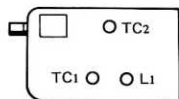
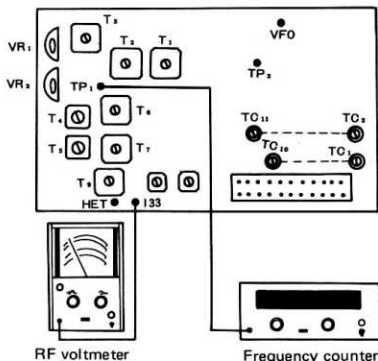

Fig. 14
Fig. 15
Refer to Fig. 14 and Table 4. The dial position "1000" (Table 4) is reached by turning the main dial clockwise and backing it away by one rotation from the stopper point. One rotation corresponds to an interval of 25 kHz. Connect the frequency counter to VFO terminal of HET unit. The location of this terminal is indicated in Fig. 15.
Connect the RF vacuum-tube voltmeter and frequency counter to the HET unit as shown in Fig. 15. With RIT control accurately positioned at "0", the dial at "0" position and VR2 set at its neutral position, adjust according to Table 5.
| (5) | Adjust T3 to maximize the RF voltage applying to the gate of Q6 (2SK19) or Q7, with VFO set at "500" on the graduated scale. So that the RF voltmeter pointer will not deflect beyond the 1.3-V point at this time, adjust the TC2 on VFO unit (Fig. 14). | | | |
With the frequency counter connected to TP2 (Fig. 15), adjust each trimmer for a fixed channel to obtain the target value indicated in Table 6. There are a total of 11 trimmers, TC1 through TC11, inclusive.
- 2) Adjust VR1 (of the GEN unit, Fig. 15) in such a way that turning off the RIT switch will not affect the beat sound.